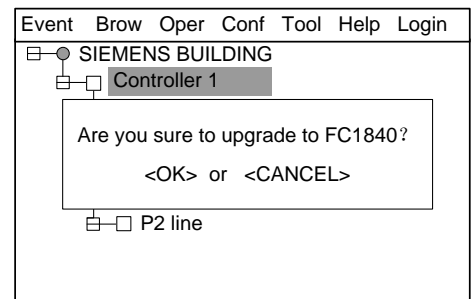

Fig.31-4
4. System pop out dialog window to ask user whether to upgrade or not (Fig.31-4). Press "OK" to upgrade to FC1840 or press "C" to give up.